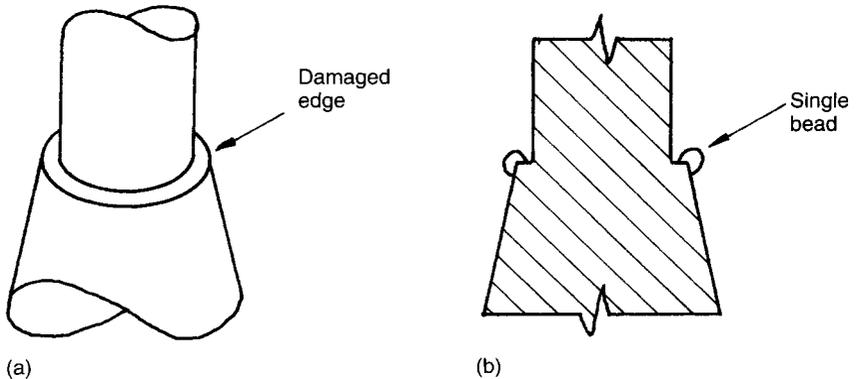

Fig. 6.2
**Solution 1b** The shut edge is wire brushed, cleaned with a solvent and rebuilt with weld; see Fig. 6.2.